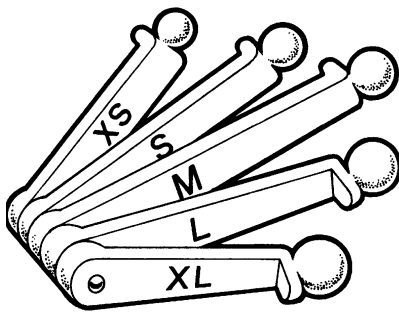

Figure 21
When two-sized foam earplugs are utilized, selection of the proper size product is a concern if optimum protection is to be obtained. As a guide in estimating earcanal sizes, E•A•R makes available the Eargage™ tool which consists of plastic spheres of increasing diameter mounted on plastic shafts [approximately 1-mm increments from 7 mm for the extra small (XS) to 11 mm for the extra-large (XL)], as illustrated in Figure 21.